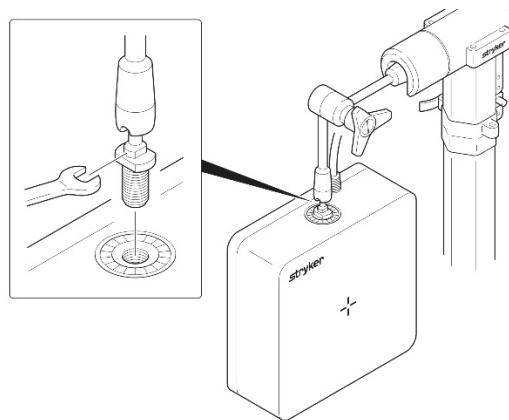

Figure 3: Field Generator Attachment to Mounting Arm
3. Attach the mounting arm to the field generator by threading the post of the mounting arm into the threaded hole located on the field generator. The post should be fully inserted into the threaded hole and firmly tightened with the provided 8mm wrench (Fig. 3).